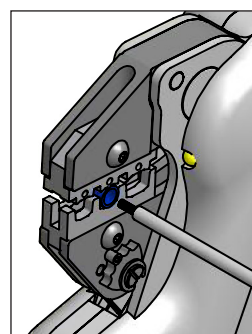

Figure 10
8.3.1 Die sets for insulated/non-insulated cable connectors, through and coax connectors, wire-end sleeves, RJ plugs (Figure 10)